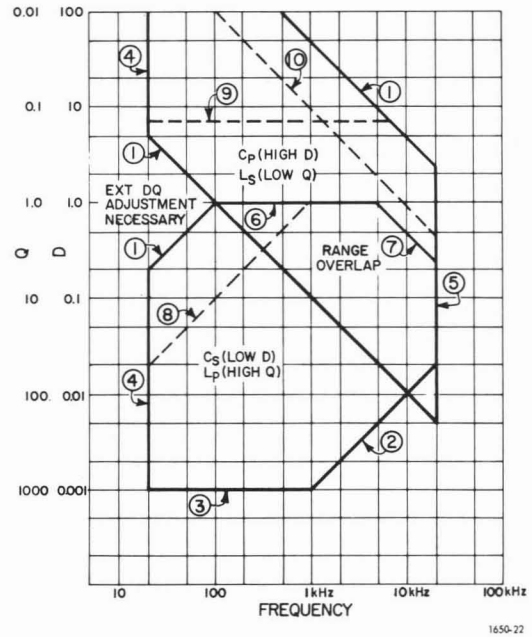

Figure 4-5. DQ ranges vs frequency.
The D and Q readings and ranges are functions of frequency. Also, in order to avoid errors in the C and L readings, the D or Q of the unknown is further limited. The resulting allowable D and Q ranges are given in terms of frequency and D or Q of the unknown at the measurement frequency in Figure 4-5.
The wide overlap of ranges (Figure 4-5) permits D and Q coverage down to 100 Hz without external adjustment. Below 1 kHz, more of the low D and high Q range can be used than is calibrated. In this region the low Q scale can be used to indicate D directly and the high D scale used to indicate Q directly with a maximum additional error of 2%.
Below 100 Hz there is a D and Q range not covered by the internal DQ adjustment. An external rheostat or decade box may be used to extend the range of any of the D or Q scales. However, to avoid error, the low D and high Q ranges should not be extended beyond a value of 1 at frequency of measurement (Figure 4-5).
Although the specifications for the 1650 certify performance up to only 20 kHz for ac measurements, the bridge can be used with accuracy only somewhat reduced up to 100 kHz. At frequencies above 20 kHz, limits other than those shown in Figure 4-5 restrict the accuracy attainable with the bridge. These limits can be stated as a percent error, which should be added to the basic one-percent accuracy given in the instrument specifications. The added error introduced above 20 kHz is always negative, and the net effect of the two errors will probably be negative. Table 4-2 shows $C_p - L_s$ accuracy at CGRL dial settings between 0.4 and 4.
* below line 10 in Figure 4-5